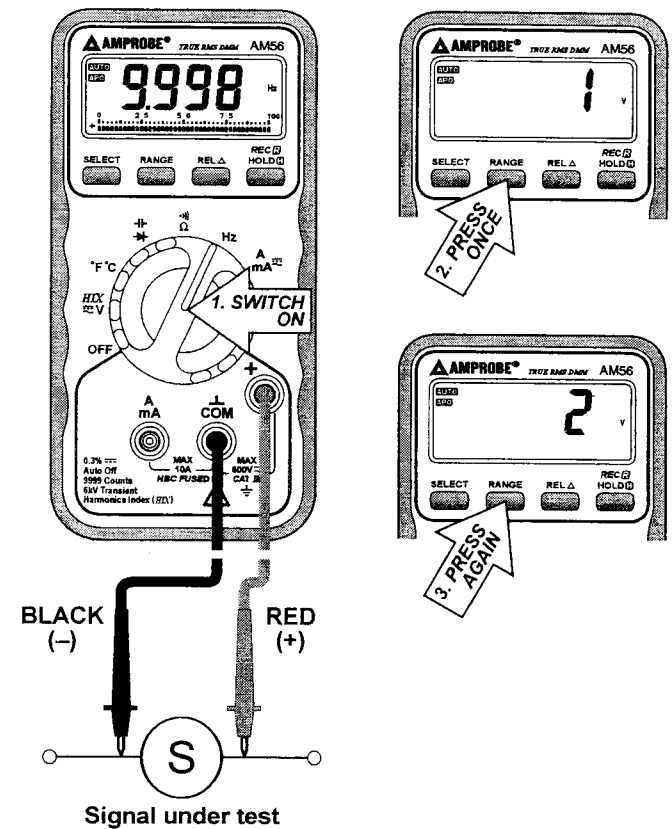

FIG 8. Hz FUNCTION (not available in AM50)
- 3) Connect test leads to signal source and observe the digital display, see **FIG 8**